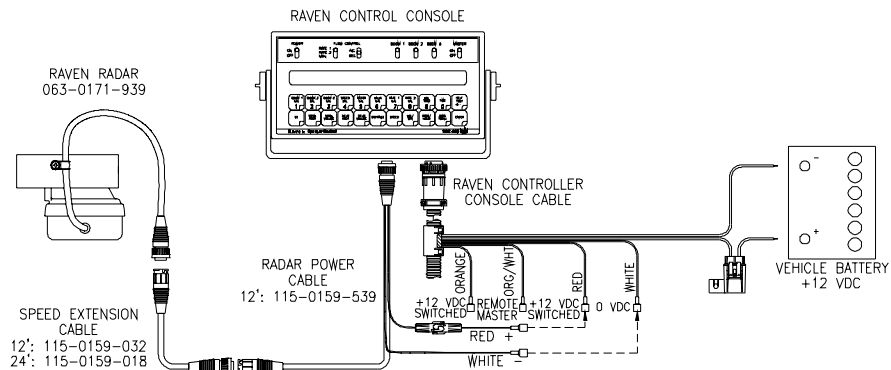

FIGURE 7
- b) For all other consoles, connect radar with radar interface cable (P/N 115-0159-539) to the console. See Figure 7.